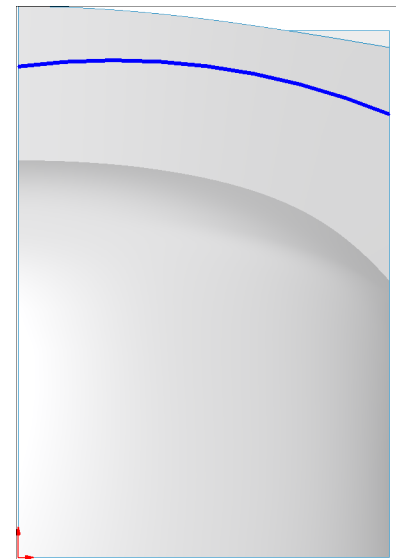

Fig. 38
Step 4. Sketch arc between side edges and radius up, **Fig. 38**.